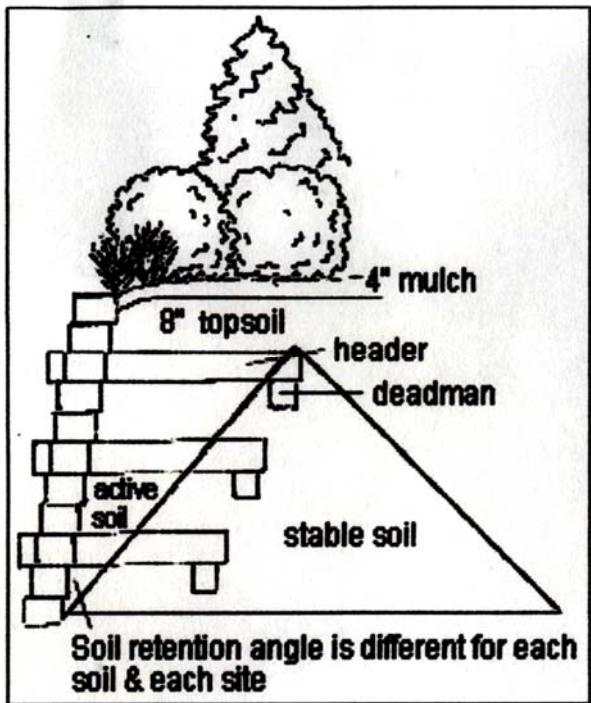

Figure 13. Location of headers and deadmen into stable soil behind a retaining wall. From: SULIS: [www.sustland.umn.edu](http://www.sustland.umn.edu).
8. The third and subsequent courses of timbers will require headers and deadmen. For an average small wall less than five feet, headers and deadmen should be placed after each eight-foot timber in every third course of the wall face. If enough headers and deadmen are not used, the wall will fail, a very common occurrence for walls not professionally designed. Headers should be secured to timbers with two spikes in the face of the wall as well as to the deadman in the soil behind the wall. The length of the header depends on its placement in the wall, the height of the wall, the soil type, the soil and surface water movement, and any surcharge at the top of the wall. Surcharges can be roads, homes, parking lots and other walls. The stable soil being retained behind the wall is similar to the cone-shaped pile that is formed when soil comes off a high elevator or conveyer into one pile (Figure 13). The headers need to be long enough to anchor the wall into that cone shaped pile because the area inside the cone is stable soil. The area outside the cone is active or unstable soil. Headers at the bottom of the wall will be shorter than those near the top of the wall. Deadmen are placed perpendicular to the header making a "T." While deadmen length is design specific, they are usually not less than 60 percent of the header length. The top two courses of timbers can be set and spiked without tiebacks to headers and deadmen. This avoids interference with planting above the wall (Figure 14).